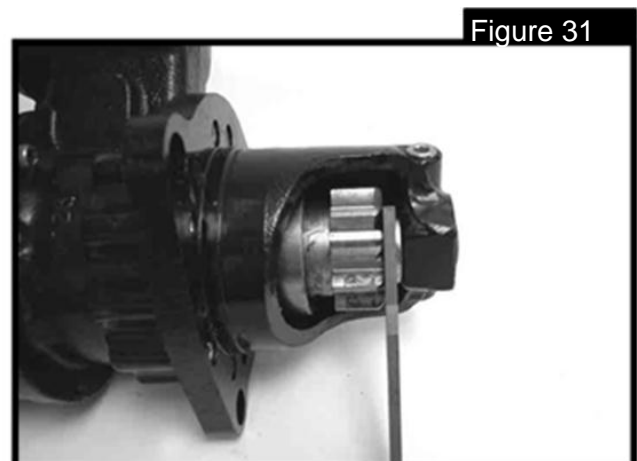

Figure 31
9.2 Turn the switch on, and measure the gap between the pinion face and the thrust washer. Proper gap is .187"(3/16)". See figure 31. To perform these procedures